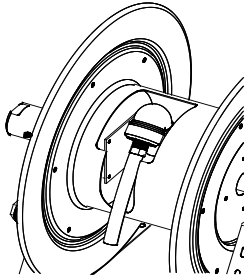

FIGURE 1.0
- Thread male hose fitting into outlet riser(s) (Refer to FIGURE 1.0). Challenger series 100W